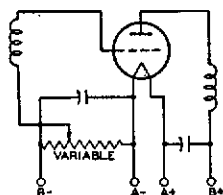
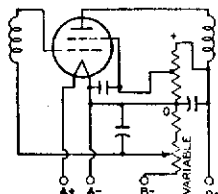

Fig. 84
Fig. 86
Grid-bias variation for the rf and if amplifier stages is a convenient and frequently used method for controlling receiver volume. The variable voltage supplied to the grid may be obtained: (1) from a variable cathode resistor as shown in Figs. 84 and 85; (2) from a bleeder circuit by means of a potentiometer as shown in Fig. 86; or (3) from a bleeder circuit in which the bleeder current is varied by a tube used for auto-